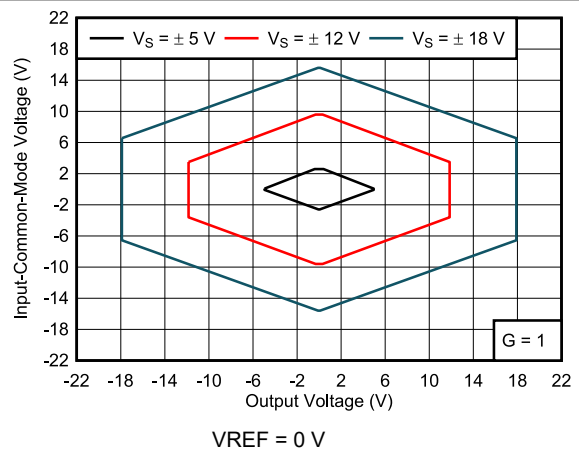

Figure 7-12. Boundary Plot - Input Common-Mode Voltage vs Output Voltage
- (1) Total offset, referred-to-input (RTI): $V_{\text{OS}} = (V_{\text{OSI}}) + (V_{\text{OSO}} / G)$.
- (2) Specified by characterization. Not tested in production.
- (3) Offset drifts are uncorrelated. Input-referred offset drift is calculated using: $\Delta V_{\text{OS(RTI)}} = \sqrt{[\Delta V_{\text{OSI}}]^2 + (\Delta V_{\text{OSO}} / G)^2}$.
- (4) Input voltage range of the input stage. The input range depends on the common-mode voltage, differential voltage, gain, and reference voltage; see Figure 7-12.
- (5) The values specified for $G > 1$ do not include the effects of the external gain resistor, R_G .